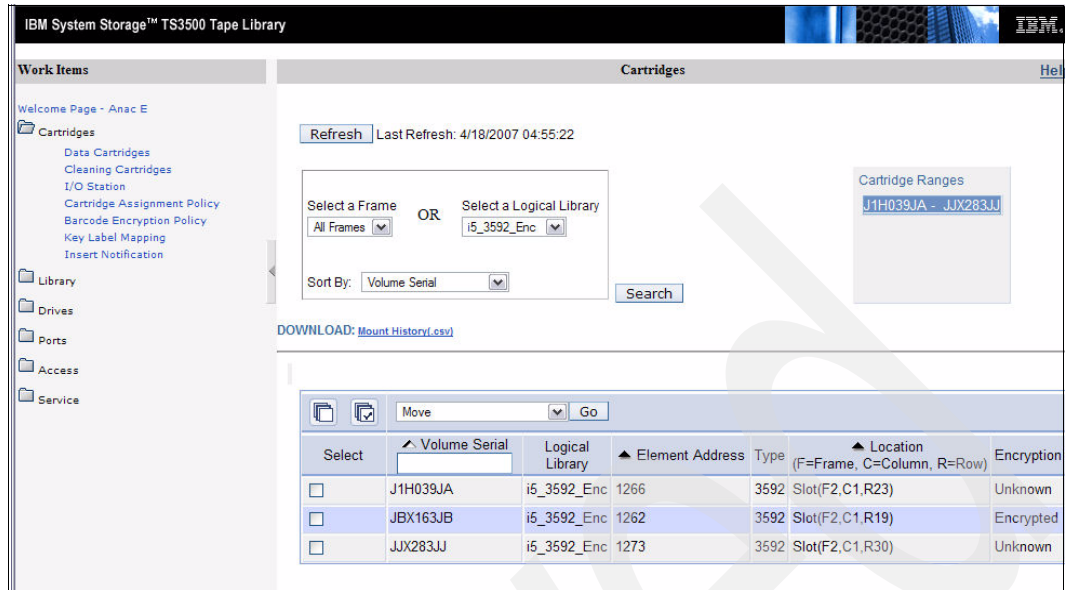
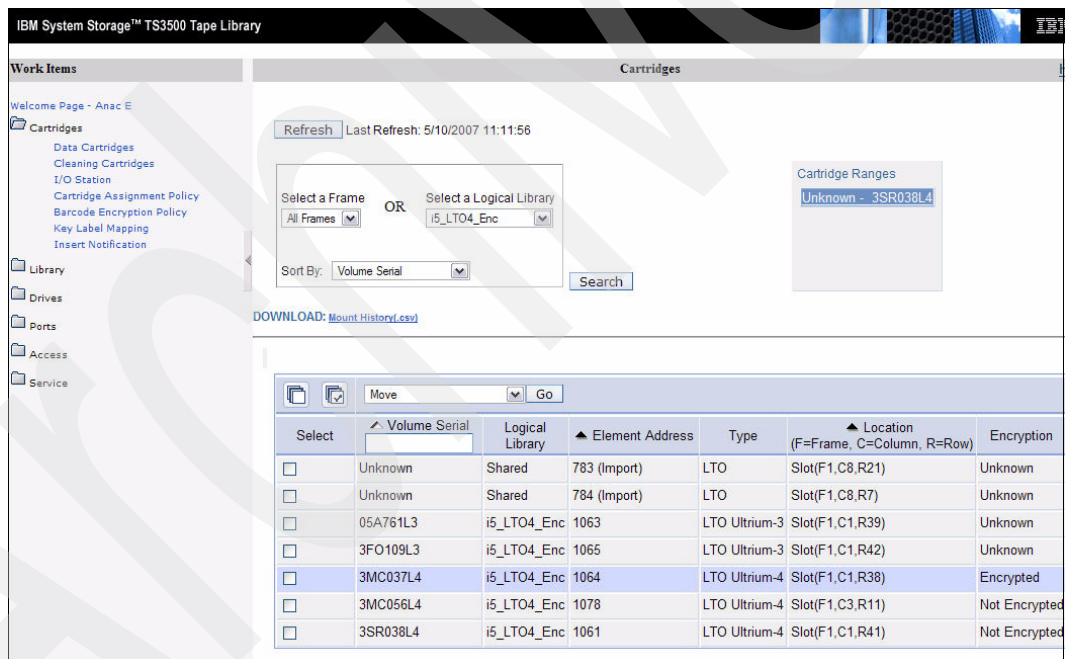

Figure 7-54 IBM UltraScalable Specialist - 3592 Cartridges Screen with Encryption Information
Figure 7-55 IBM TS3500 Specialist - LTO4 Cartridges Screen with Encryption Information
- ▶ Unloading the initialized cartridges from the drives using the IBM UltraScalable Specialist Cartridges **Move** option from the IBM UltraScalable Specialist “Cartridges” screen the *initialized* cartridges now have the encryption status *Encrypted* as shown for the 3592 cartridge VOLSER JBX163 in Figure 7-54 and for the LTO4 cartridge VOLSER 3MC037 in Figure 7-55.